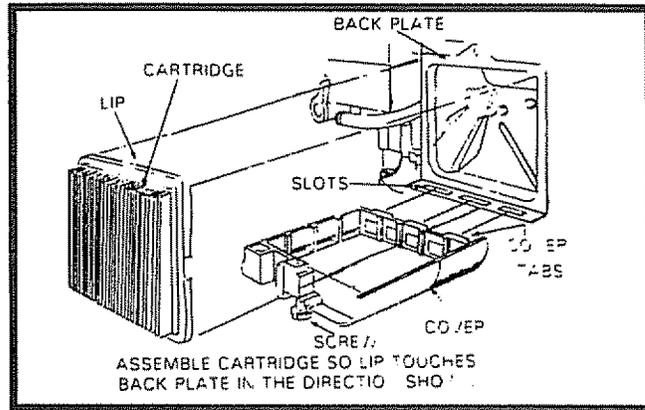

FIG. 17
- Loosen Screw and tilt Cover as shown in fig. 17.
- Install Cartridge, then replace Cover making sure the tabs are aligned with the slots in Back Plate. Fasten Screw securely (See Fig. 17).